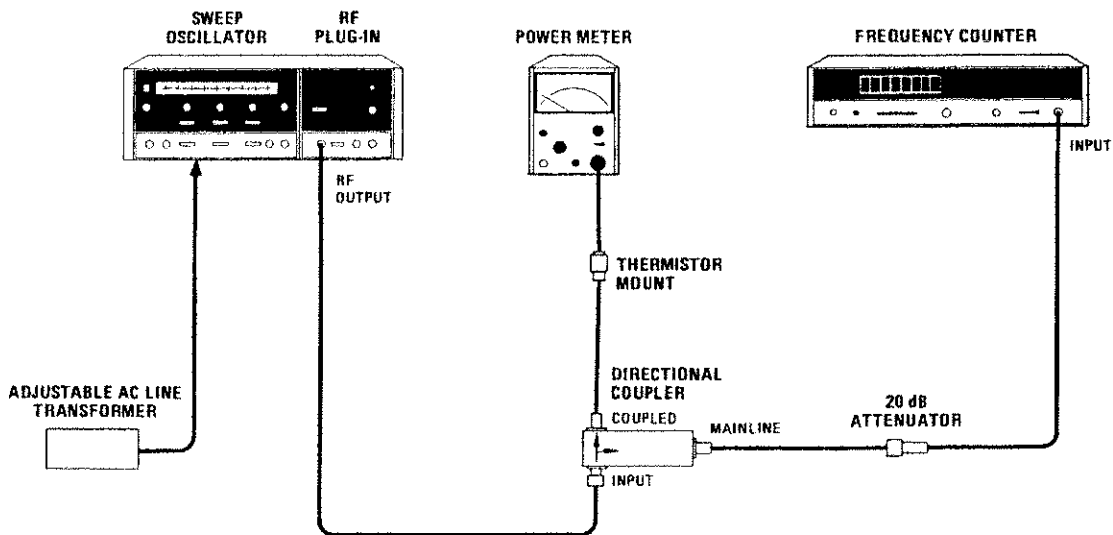

Figure 4-3. Frequency Stability Test Setup
Equipment listed is for two test setups (Figures 4-3 and 4-4).
- a. Connect equipment as shown in Figure 4-3.